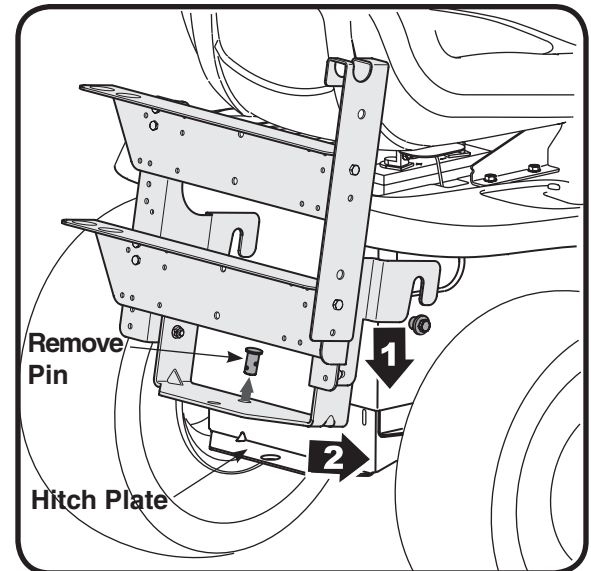

Figure 3-1
2. Remove the hairpin clip and clevis pin from the rear of the mounting bracket assembly. See Fig. 3-1.
3. Position the hooked ends of the bracket assembly over the shoulder bolts (1). Swing in the bottom of the bracket assembly down and in (2) over the hitch plate and aligning with the hole on the hitch plate. See Fig. 3-1.